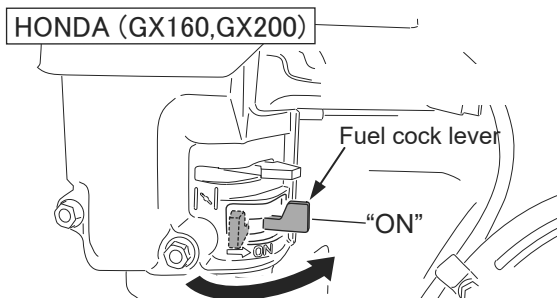

Fig. 6
- 1 Set the fuel cock lever to the "ON" position to let the fuel flow. (Fig. 6)